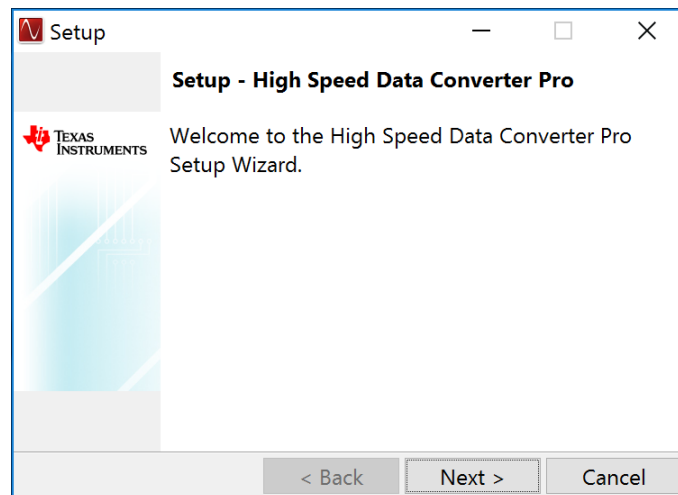

Figure 22. HSDC Pro Install (Begin)
1. Unzip the saved file and run the installer executable (*Run as Administrator*) to obtain the menu shown in Figure 22.